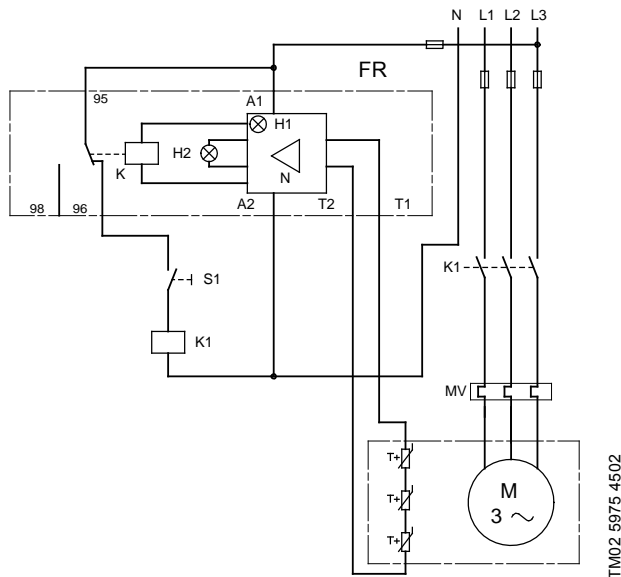

Fig. 10 Wiring diagram, BME hp feed pump
The electrical connection must be carried out by an authorised electrician in accordance with local regulations and the diagrams for the motor protection, starter and monitoring devices used. See fig. 10. The electrical connections must be made in the terminal box.
The motor must be connected to an effective motor starter (MV) and an external amplifier relay (FR). See fig. 10. This protects the motor against damage from voltage drop, phase failure, quick and slow overloading and a locked rotor.
Before starting up the system, the thermistors must be connected to terminals T1 and T2 on the terminal block. See fig. 10. The thermistors protect the motor windings against thermal overload.